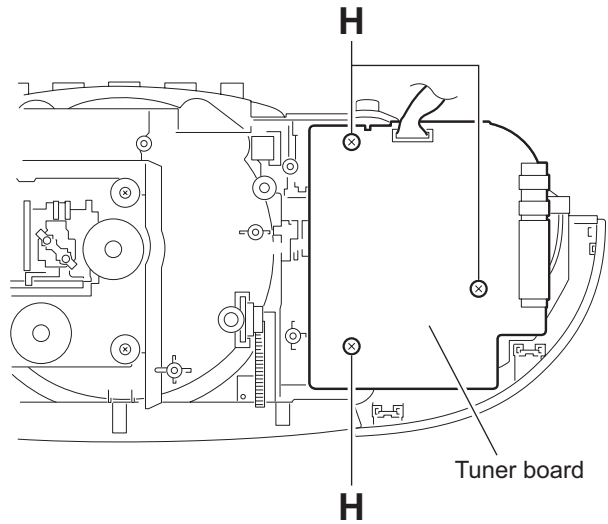

Fig.11
3.1.4 Tuner board (See Fig.11)